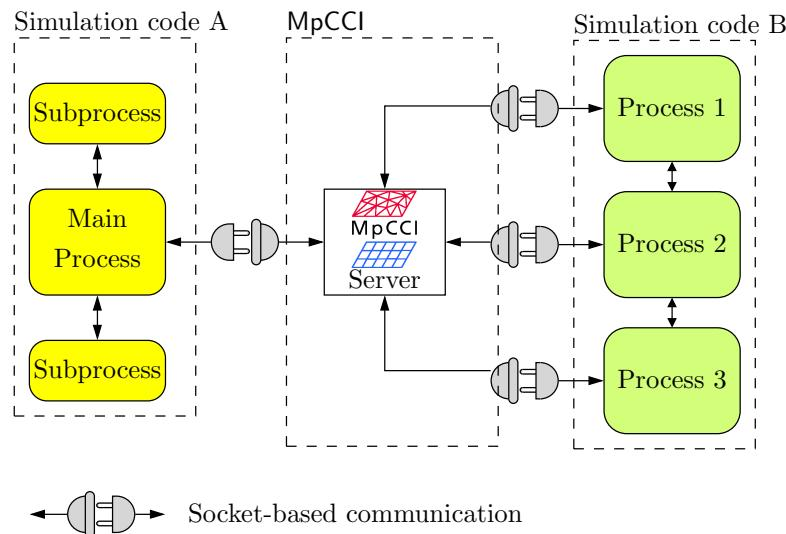

Figure 38: Client-server structure of MpCCI
If codes are coupled without parallel execution, one server is started for communication with each simulation code, see Figure 38 a\).
- All data which is exchanged with the simulation code is passed via a main process. This is depicted in Figure 38 b\) on the left.
- Each subprocess of a simulation code communicates with the MpCCI server as shown in Figure 38 b\) on the right.
In the example sketched in Figure 38 a\) only one port is used for getting the incoming client connection:
For the parallel run of Figure 38 b\) only one port is needed: